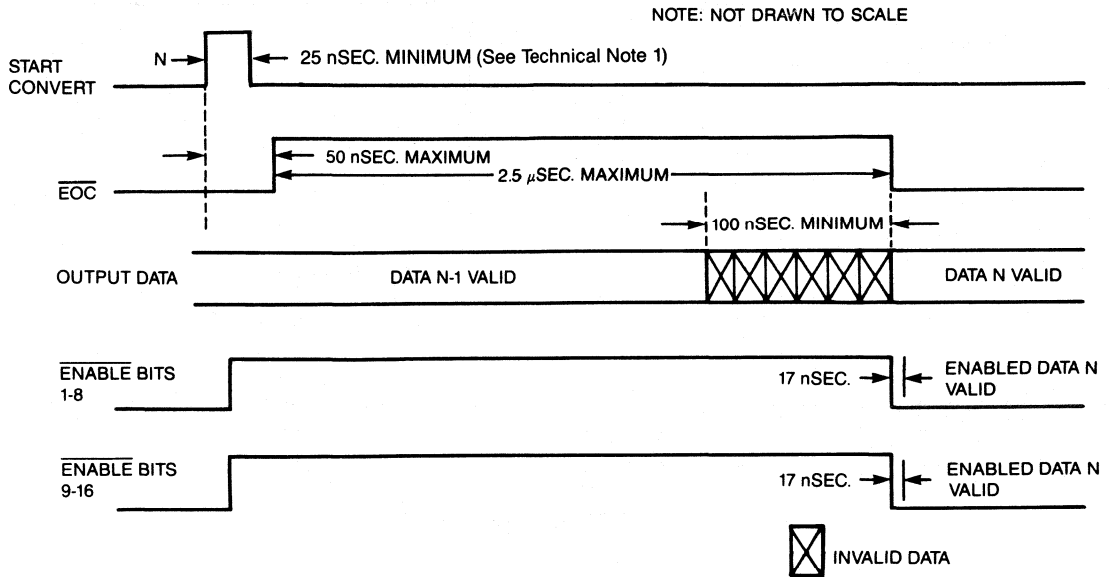

Figure 3. ADC-974 Timing Diagram
1. EOC may be high or low on power-up. The first conversion needs a 125 nSec. minimum start convert pulse if EOC is high. The first conversion should be ignored if continuous 25 nSec. start convert pulses are used. The EOC falls 15 nSec. maximum after the new data has been strobed into the data output storage registers. Typically, it takes 3 nSec. before data is available at the outputs after EOC goes low. Refer to Figure 3.